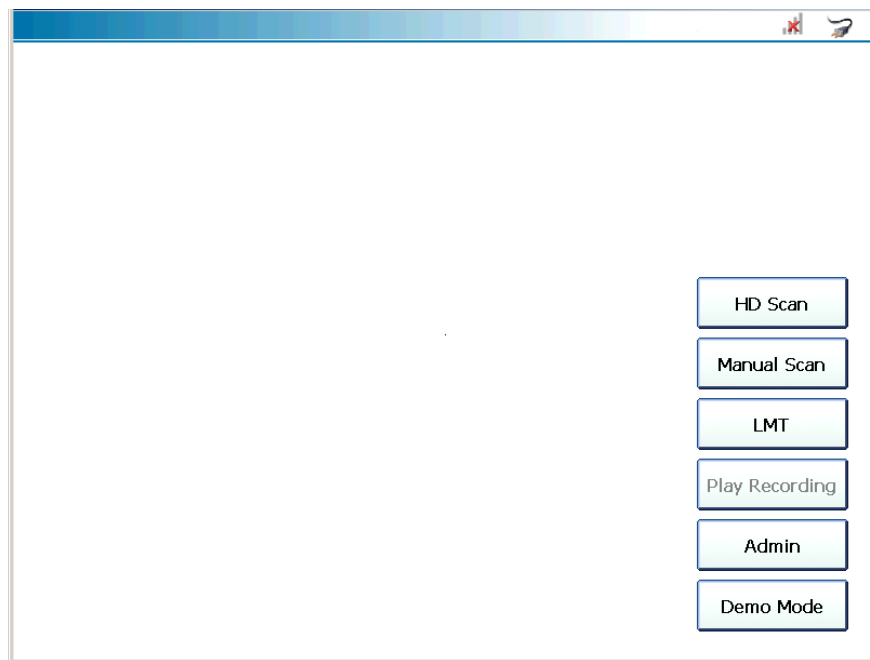

Figure 2.5 Main Menu
- **End Session**—Ends the session, disconnects from the vehicle, and returns you to the **Main Menu** (Figure 2.5).
You access the Admin Menu from the Main Menu (Figure 2.5). It is used to perform various administrative tasks (e.g., configuring your device, registering software applications, installing updates). You can access the Admin Menu only when disconnected from the vehicle.